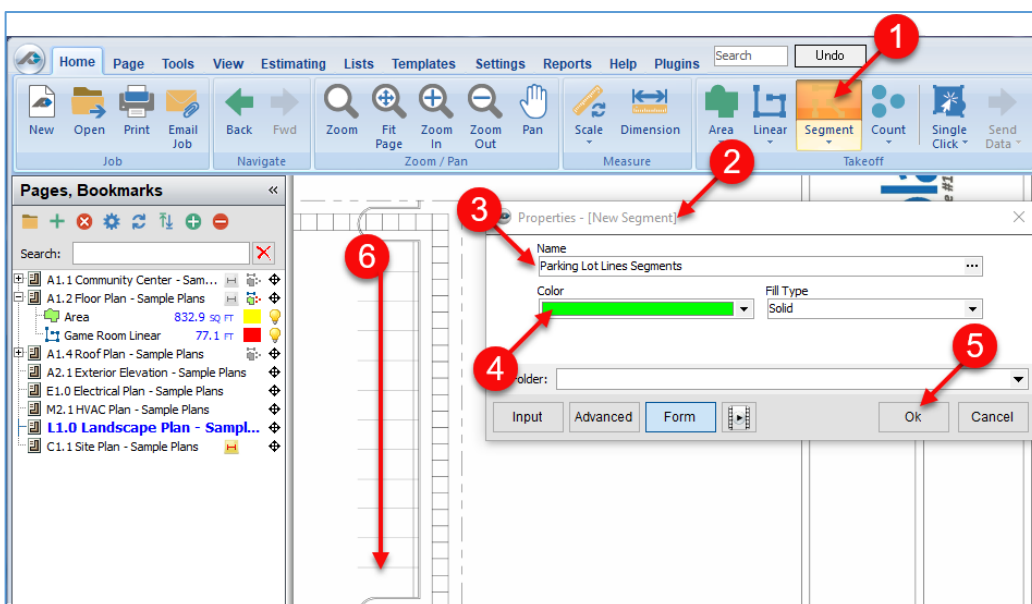

Figure 12-A
7. Click on the beginning and end of each parking lot line, treating each as an individual segment. Press **M** on the keyboard if you wish to magnify the area for more accuracy (Fig. 12-B). Note that pressing **Ctrl + Z** will undo any **Point's** placement.